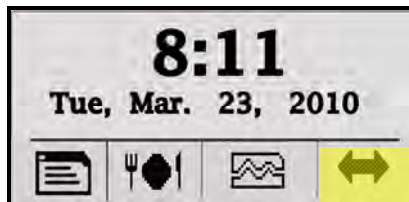
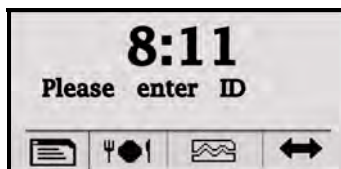

Figure 34: MTX-15 Normal Startup Display
Figure 35: Enter Employee ID for Transfer
- Step 1.** From the normal main display (see **Figure 34**) press the **transfer**  function button to enter an employee ID for a labor transfer (see **Figure 35**).